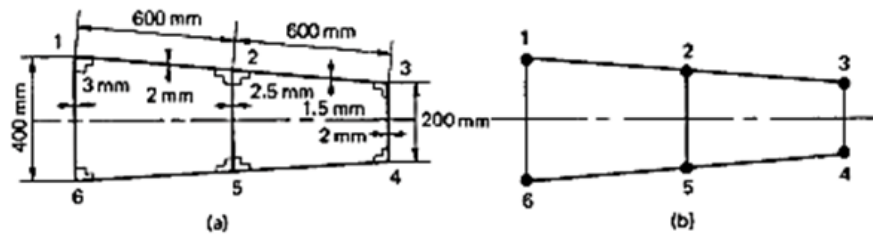

Figure 2
7. (a) Part of a wing section is in the form of the two-cell box shown in Figure 2 a in which the vertical spars are connected to the wing skin through angle sections all having a cross sectional area of 300mm^2 . Idealize the section into an arrangement of direct stress carrying booms and shear stress only carrying panels suitable for resisting bending moments in a vertical plane. Position the booms at the spar/skin junctions. [7M]